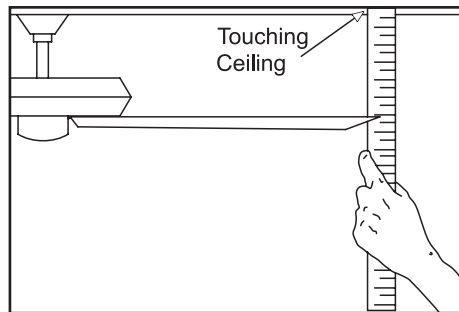

Figure 11
2. Most fan wobble problems are caused when blade levels are unequal. Check this level by selecting a point on the ceiling above the tip of one of the blades. Measure from a point on the center of each blade to the point on the ceiling. Measure this distance as shown in Figure 11. Rotate the fan until the next blade is positioned for measurement. Repeat for each blade. Measurement deviations